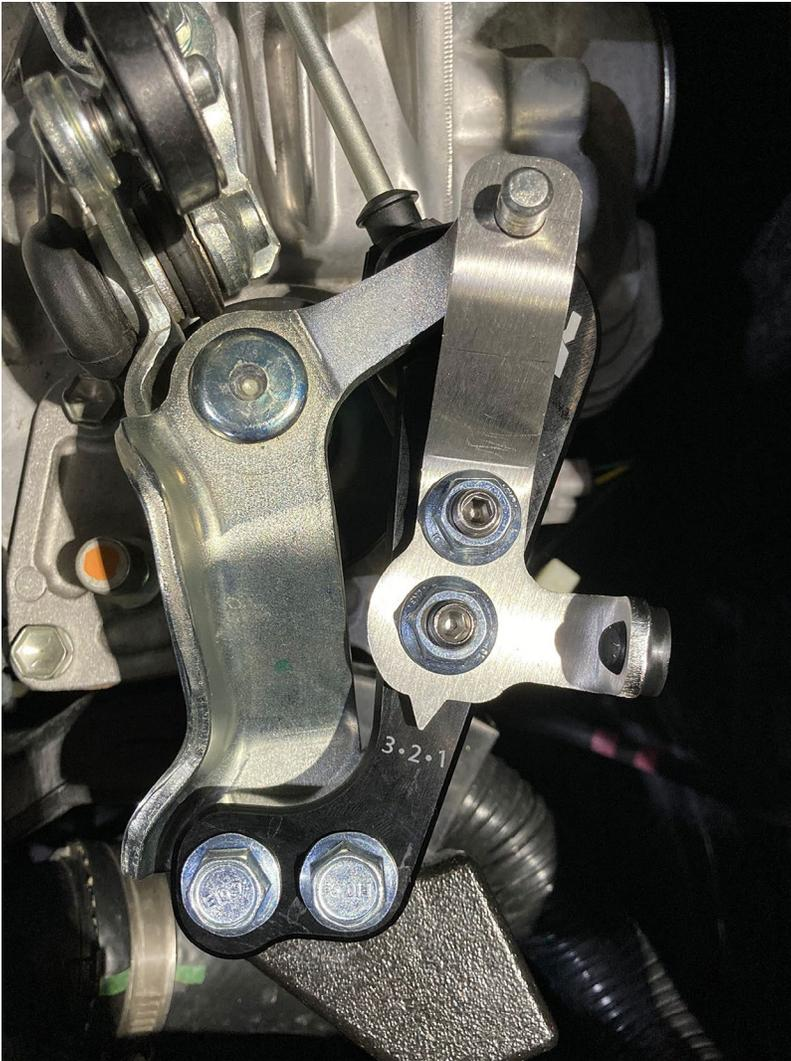

Figure 19
14. Installation complete (Fig 19)